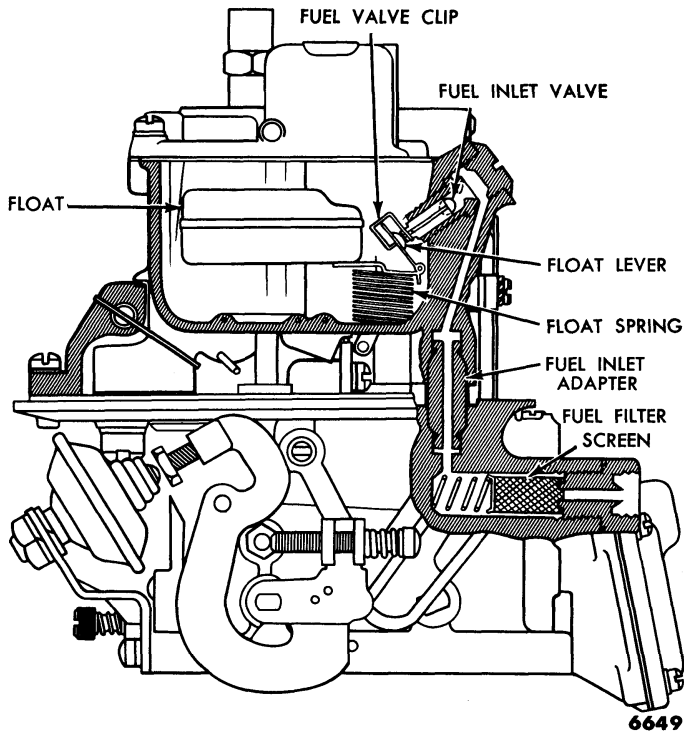

Fig. 51—Fuel Inlet System
(1) **FUEL INLET SYSTEM.** All of the fuel for the basic fuel systems enters the carburetor through the ball type fuel inlet needle valve and seat assembly (fig. 51). Movement of the needle valve in relation to the seat is controlled by the float and lever assembly which rises and falls with the fuel level. As the fuel level drops, the float lowers, opening the needle valve to allow fuel to enter the float chamber. When the fuel in the float chamber reaches a pre-set level, the float moves the needle valve to a position where it restricts the flow of fuel, admitting only enough fuel to replace that being used. Thus, any change in the fuel level causes a corresponding movement of the float, opening or closing the needle valve to maintain the pre-set level of fuel. The fuel inlet system must maintain this pre-set level, because the basic metering systems are calibrated to deliver the proper mixture only when the fuel is at the proper level.